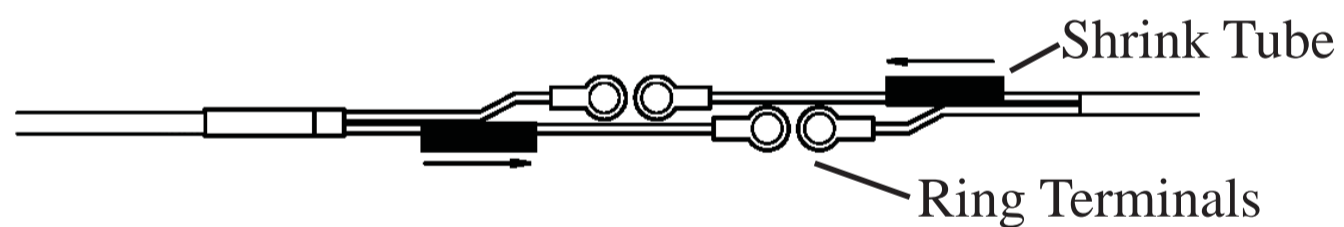

Figure 5 - Shrink Tube
1. Slide the shrink tube pieces over the two wires. Later you will slide them over the bolted connections. (Figure 5)